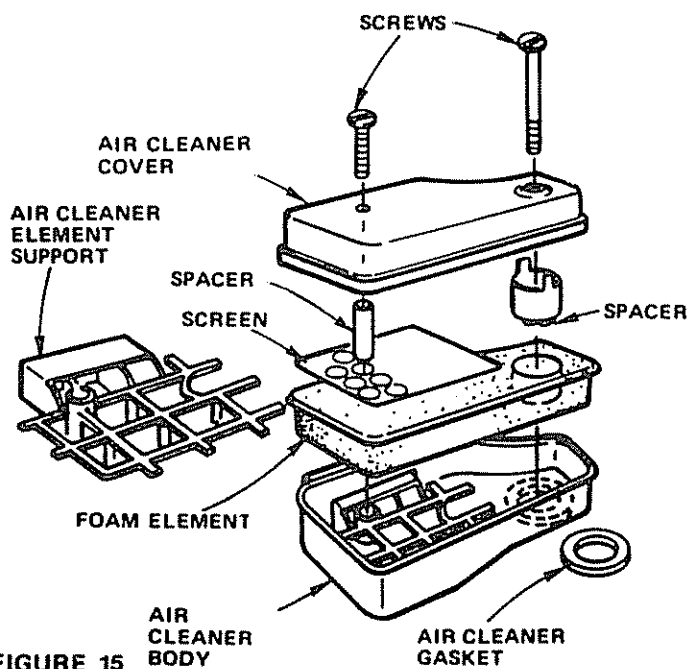

FIGURE 15
7. Clean Air Cleaner Element (Fig. 15)
- Remove two screws from air cleaner cover. Lift off air cleaner (Fig. 15).